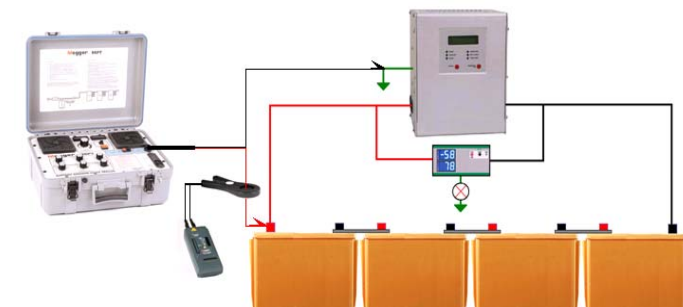

Figure 4: Test Connections
- Set the receiver to (x1) and place the receiver CT around the red transmitter lead of the BGFT. As shown in Figure 4.